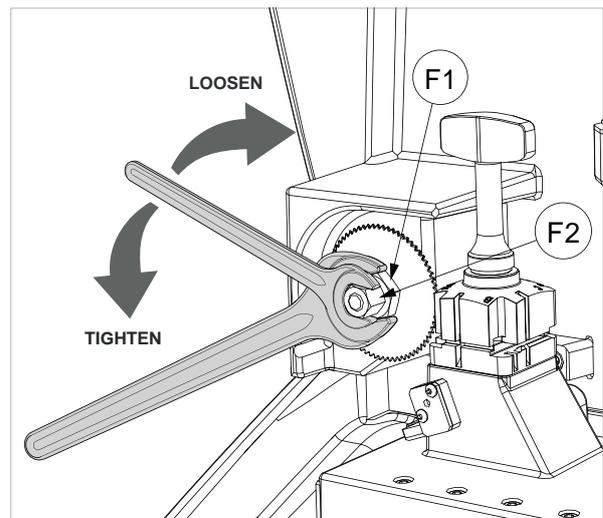

Fig. 42
- 4) Use a 13mm wrench (provided) to LOOSEN THE NUT (F2) CLOCKWISE (Fig. 42). **ATTENTION: THE THREAD IS LEFT-HANDED.**